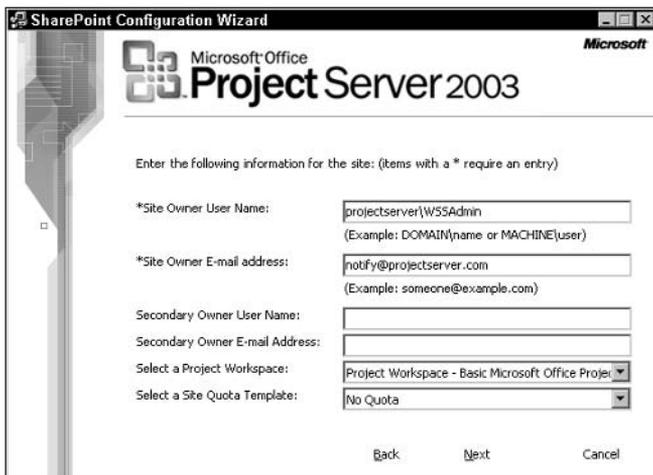

Figure 18-22: Enter the Site Owner information on this page.
7. On the Enter the following information for the site page (see Figure 18-22), type in the information that you entered in the Site Owner section of the Extend and Create Content Database page (refer to Figure 18-19, and see Steps 6 and 7 in the previous section). Click Next.